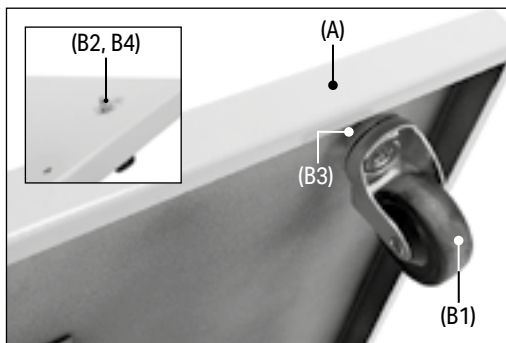

Fig. 1
1. Attach the castors to the base plate (Fig. 1):